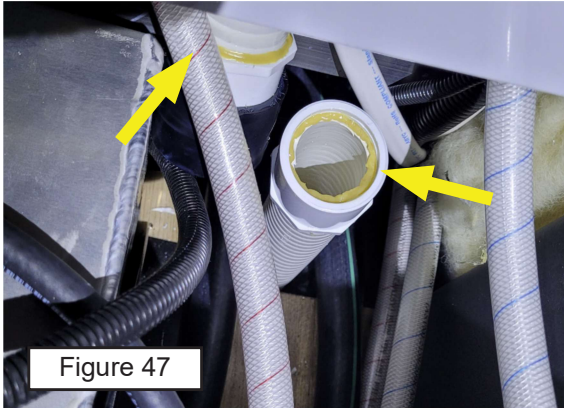

Figure 47
- b. Apply the all purpose plumbers cement to both sides of the grey tank vent hose then install the (2) 1 1/4" x 1 1/2" PVC bushing adapter to each side of the grey tank vent hose. (See Figure 47)